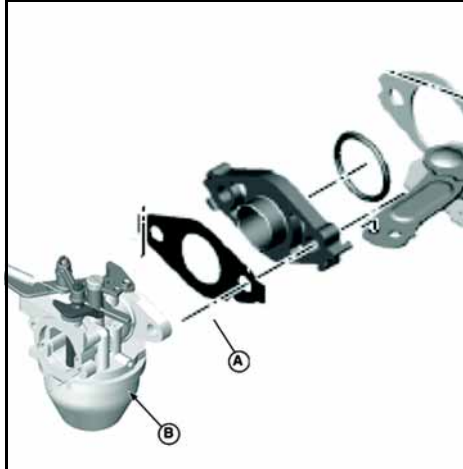

Figure 36
- Remove gasket (A, Figure 36), spacer, and o-ring between control bracket and carburetor (B).